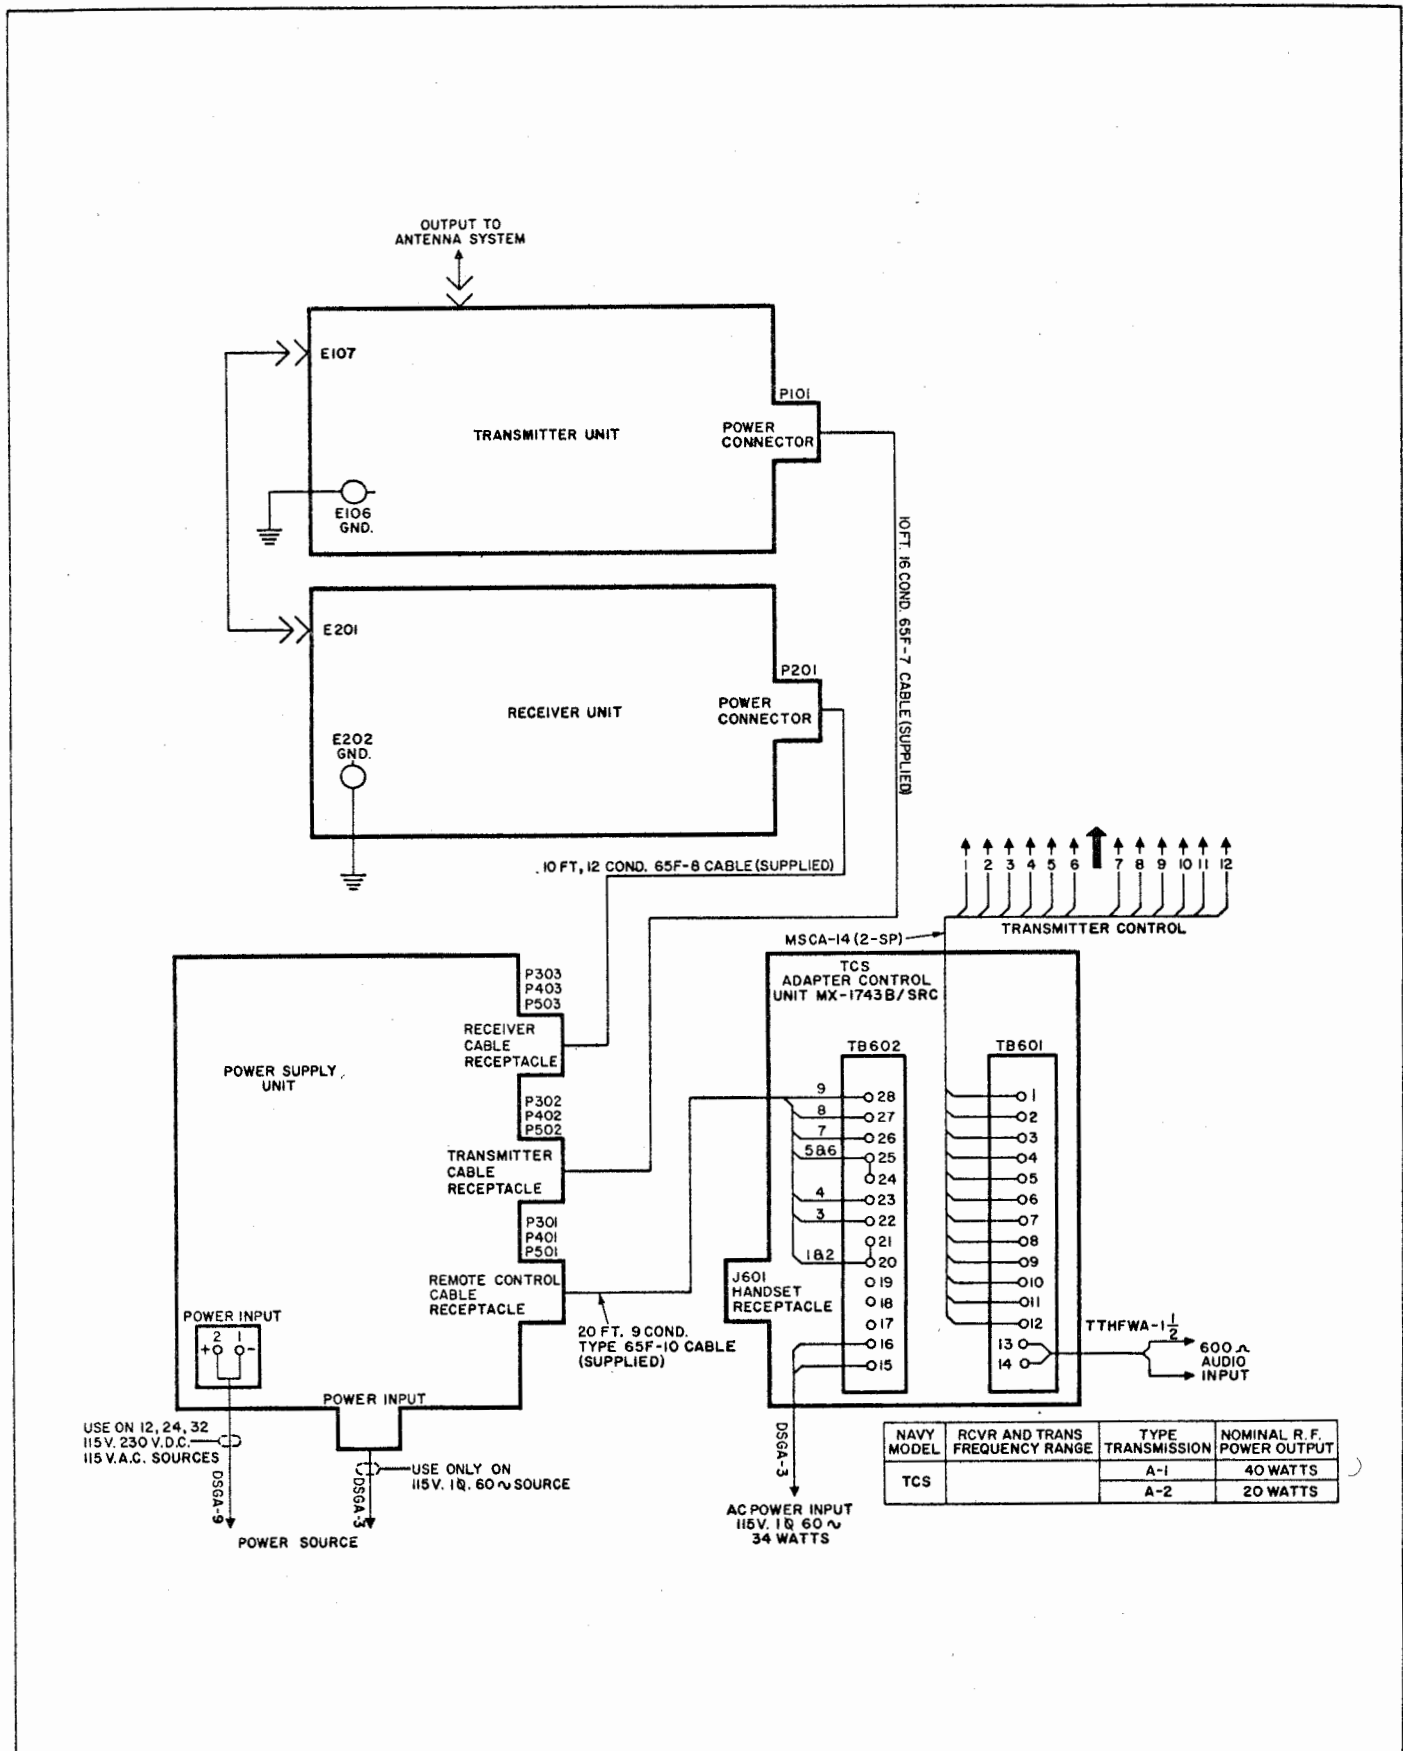

Figure 4-3. Basic Communications System Interconnection Wiring Diagram
1. Insert the corrected wiring diagram Figure 4-3 and corrected schematic diagram Figure 4-4 after Figure 4-2.